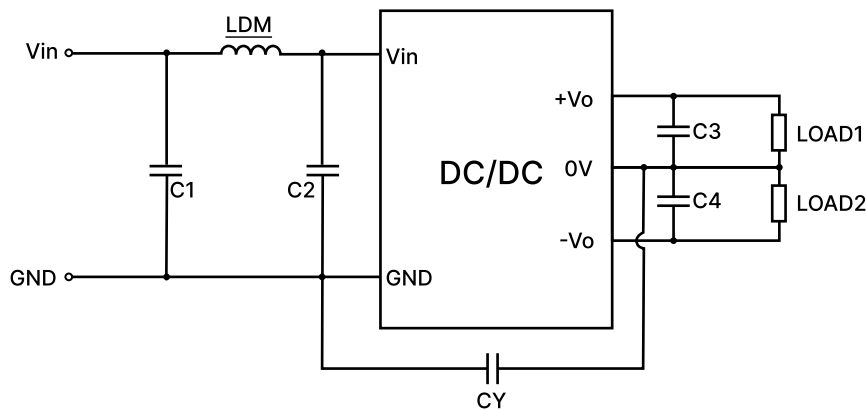

Figure 2: EMC Typical Recommended Circuits
Radiation disturbance	CISPR32/EN55032 CLASSB (The recommended circuit is shown in Figure2)
2. EMC requirements: For situations with high EMC requirements, a typical EMC recommended circuit is shown in Figure 2.